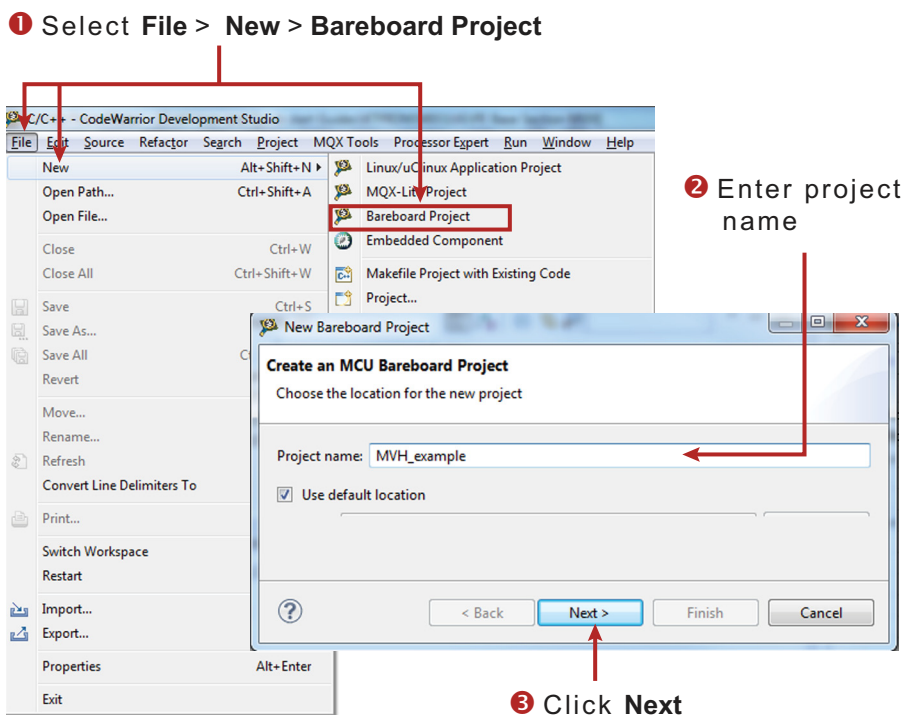

Figure 32. Creating an MCU Bare-board Project
1. In the CodeWarrior menu bar, select **File -> New -> Bareboard Project**. When the **New Bareboard Project** dialog box opens, enter a project name into the text box and then click **Next**. (see Figure 32).